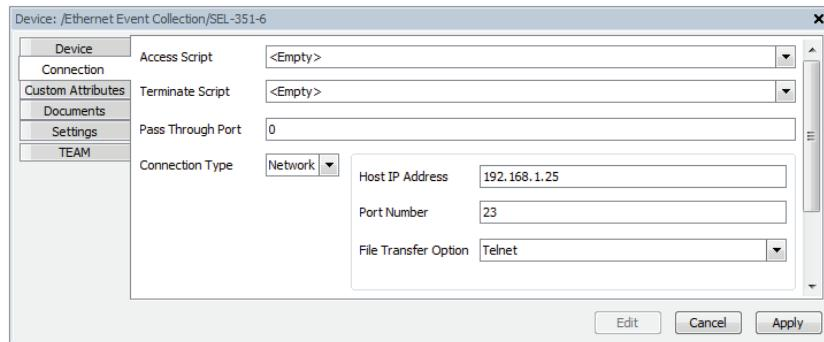

Figure 14 Connection Settings
- Step 6. For this example enter the following connection information for your relay (see *Figure 14*).